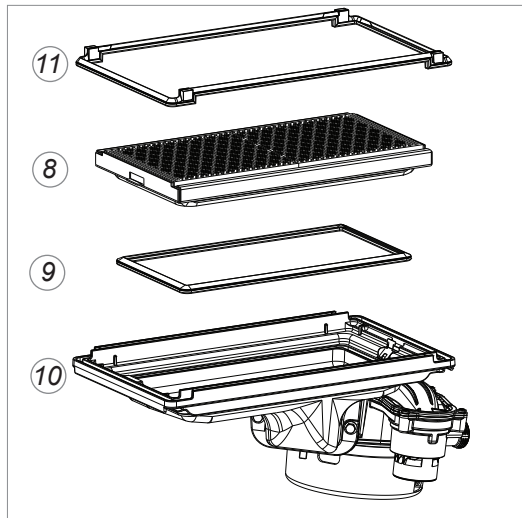

Figure 16.d
- Turn the control unit towards by moving the handle (C) slightly to the left (see figure 16.a);
- Turn/pull the sealing ring (1) downwards;
- Turn the siphon securing clip (2) anti-clockwise;
- Pull the siphon cup (3) and siphon pipe (4) out of the heat exchanger;
- After removing the burner cassette (8) the non return valve (12) becomes visible. Check that the non return valve entire circumference closes / seals completely. The valve should be able to move freely from fully open to fully closed (see fig. 16.e). Replace the non return valve if the valve does not seal properly. Follow the instructions supplied with the new part.
- Replace the gasket (9) between the burner (8) and upper casing (10) ;
- Replace the gasket (11) between the upper casing (10) and exchanger (Note the position in figure 16.f):
- Check the venturi (13) for pollution and clean them with a soft brush in combination with a vacuum cleaner, if necessary.